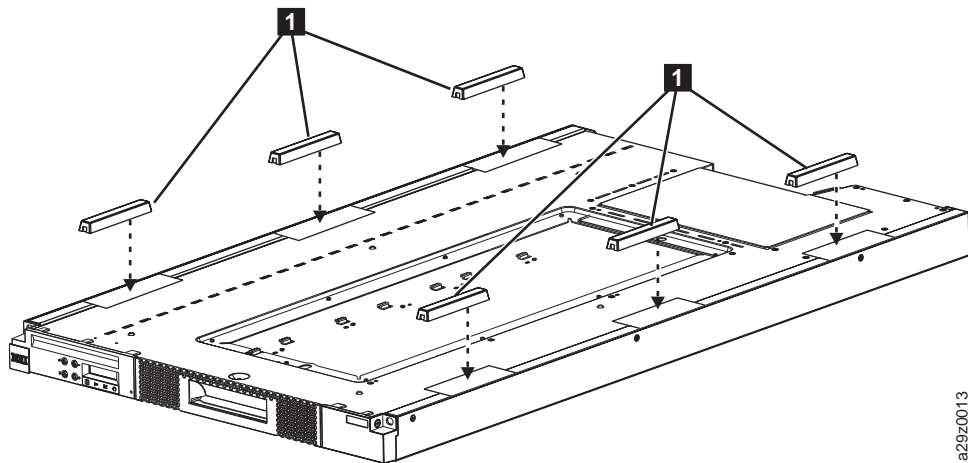

Figure 136. Attaching the feet
2. Turn the library over and attach the feet **1** to the designated locations on the bottom of the library (Figure 136). Return the library to the upright position.